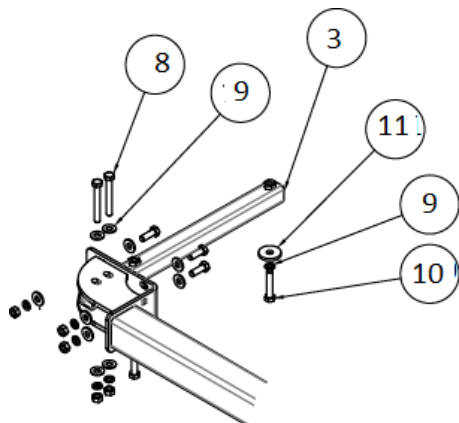

Figure 3 – Insert the chassis arms.
3. Insert the loose chassis side arms and bolt them to the towbar, using the relevant bolts, as shown in Figure 3.